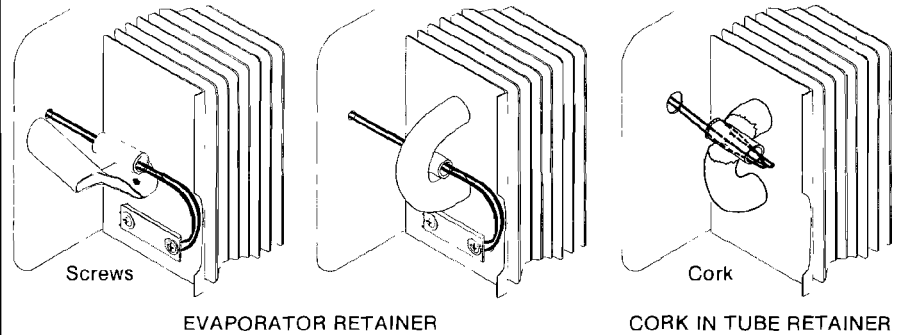

FIGURE 53 — TYPES OF CAPILLARY TUBE RETAINERS
3. Loosen capillary tubes from the retainer (Fig. 53) by backing the Phillips-head screws in the plate retainer out about two turns or by removing the cork from the cork and tube retainer. Straighten the capillary tubes, being careful not to crimp or break them. Pull tubes out from back of cabinet.